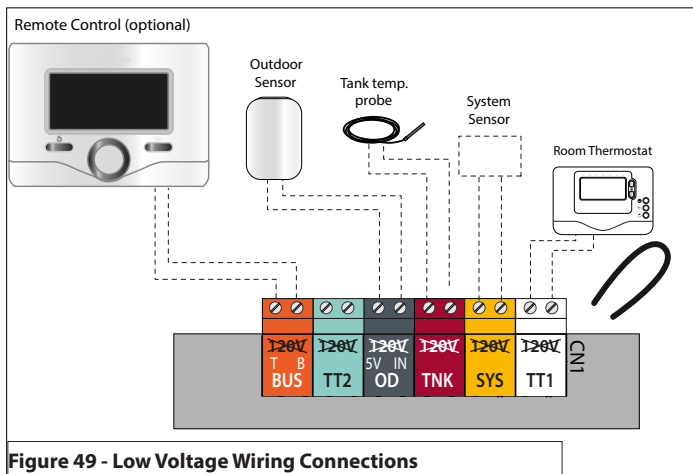

Figure 49 - Low Voltage Wiring Connections
- Connect the room thermostat wires to the terminals indicated in Table 18 and Figure 49.